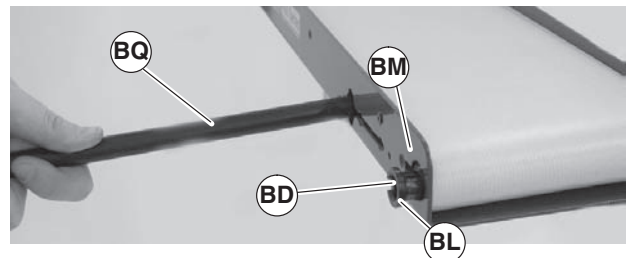

Figure 50
Do not hit retaining sleeve (Figure 50, item BD) with hammer or any other tool when installing. Inspect frame bore for damage or out of roundness if retaining sleeve does not slide easily into place. Frames with worn holes should be replaced.
4. Insert retaining sleeve (Figure 50, item BD) into pulley. Push in until inside surface of retaining sleeve shoulder (BL) touches outside of frame (BM). Do not push shoulder of retaining sleeve into frame opening.